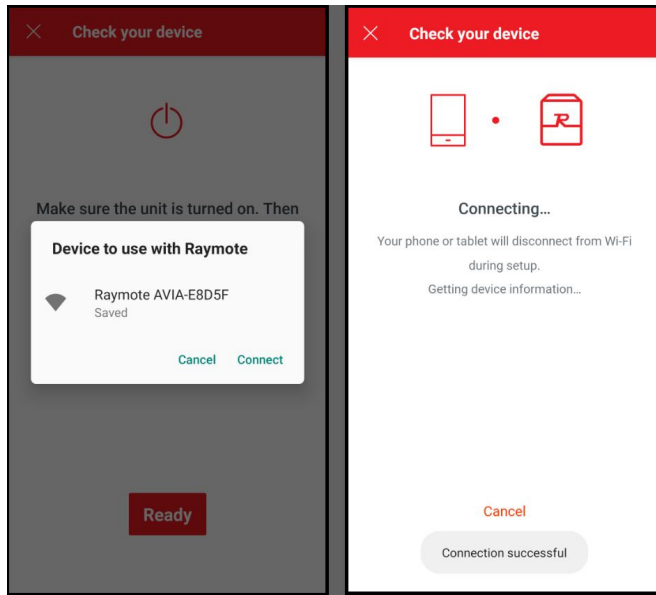

Figure 84. Connecting
3. You may be prompt to confirm selected heater. Wait a few seconds while the Raymote app connects to your heater as shown in **Figure 84**.